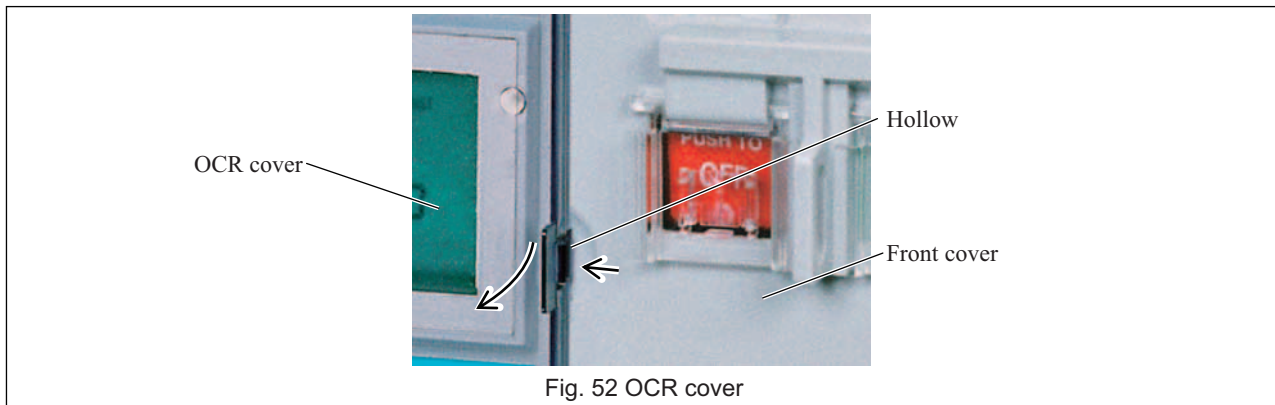

Fig. 52 OCR cover
- 1) Push the right end of the OCR cover to the left at the hollow on the front cover to unlatch and open the OCR cover. See Fig. 52.